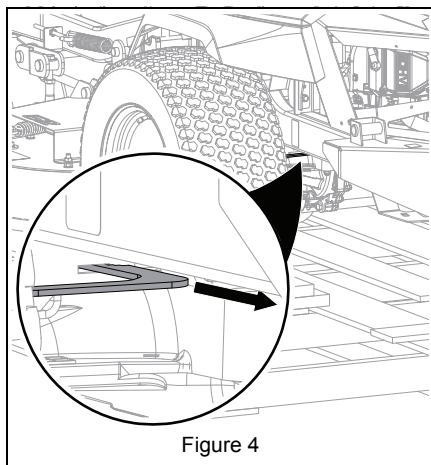

Figure 4
6. Pull transaxle bypass levers out to disengage transaxles. See Figure 4.